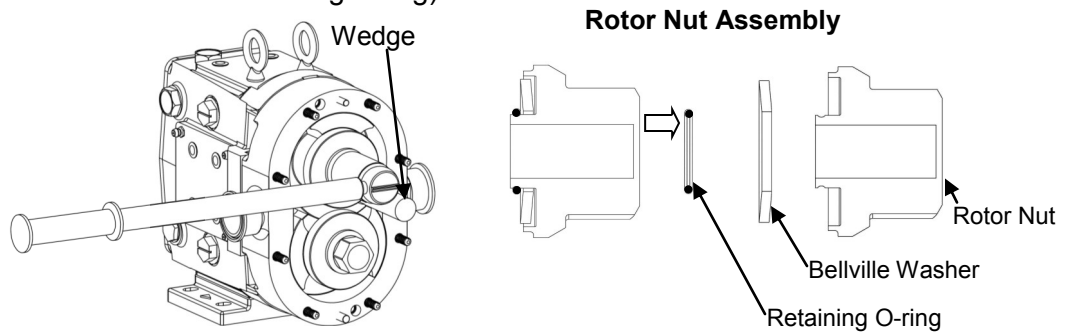

Figure 2: Rotor Removal
2) Loosen each rotor nut using the appropriate size wrench and a non-metallic wedge to keep the rotors from moving (Figure 2). Unthread each nut and disassembly the nut assembly (Rotor nut, Bellville washer and retaining o-ring).